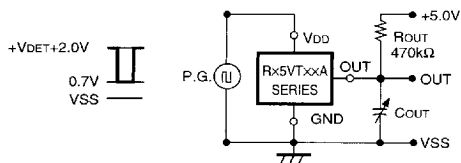

FIG. 7 Output Delay Time Test Circuit (1)
In Output Delay Time Test Circuits (1) and (2) in FIG. 7 and FIG. 8, their respective Output Voltage Fall Times (tPHL) and Rise Times (tPLH) are defined as shown below.